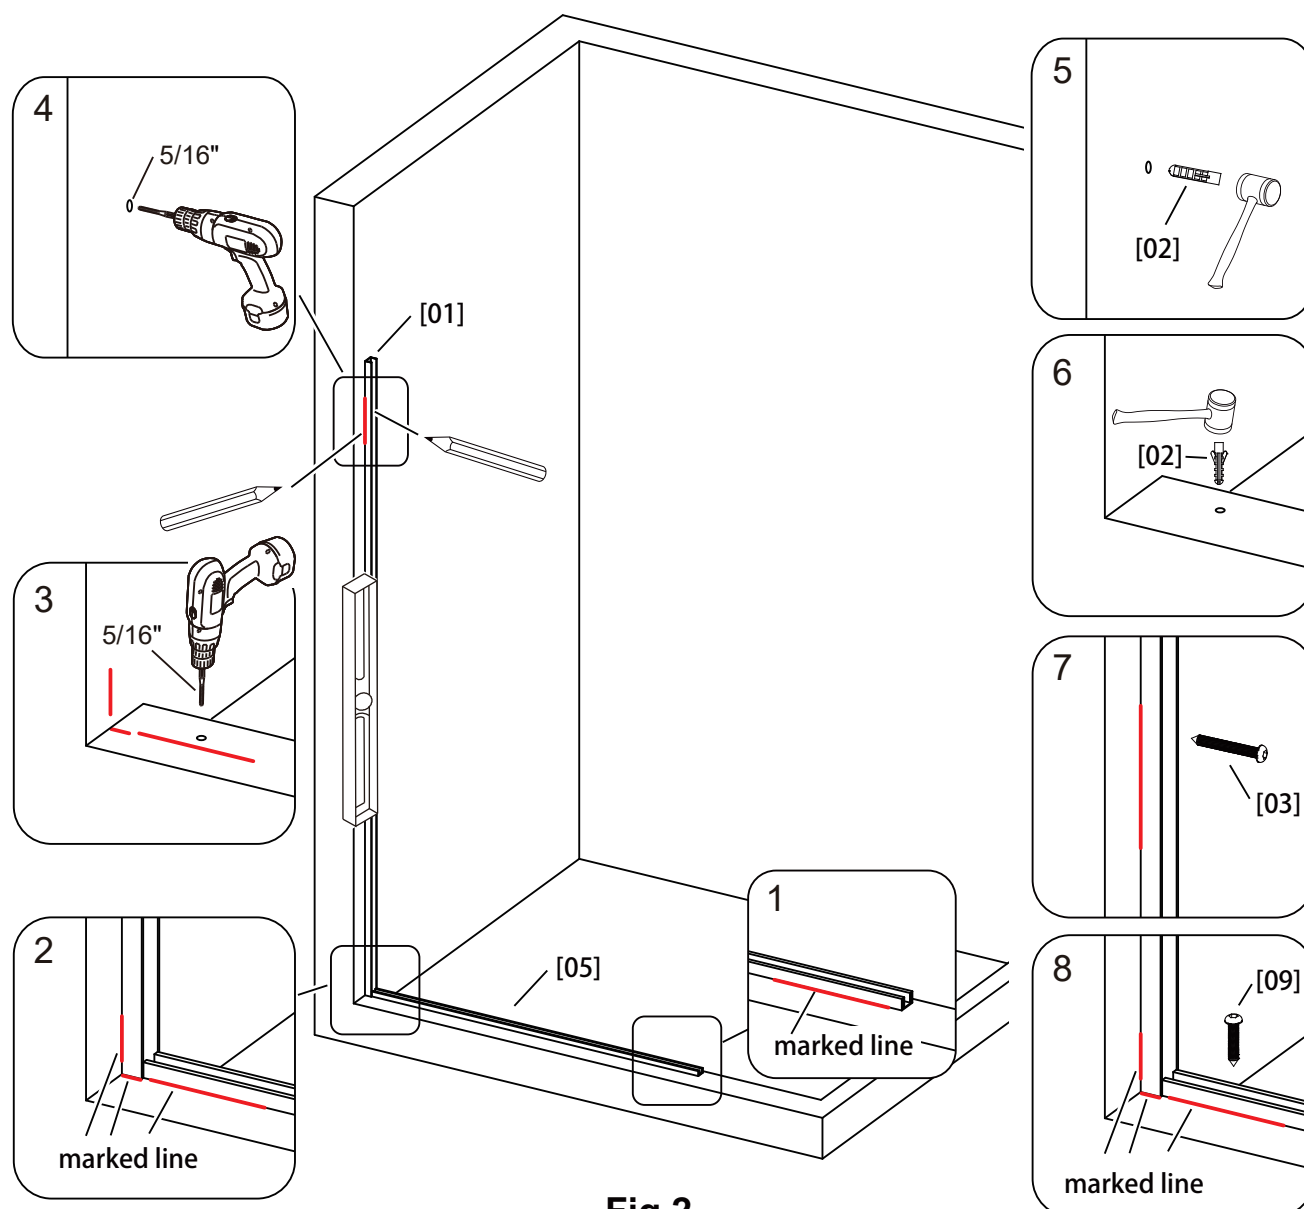

Fig 2
1. Position the **Wall Jamb [01]** on the wall as shown in the figure. Adjust it to align with the **marked line** and ensure it is plumb. (Refer to Fig. 2, Fig. 2.2)
2. Mark the **screw hole positions** through the **Wall Jamb [01]**. Draw lines along the side of the **Wall Jamb [01]** on the wall as indicated in the figure, then remove the **Wall Jamb [01]**. (Refer to Fig. 2, Fig. 2.2)
5. Reposition the **Wall Jamb [01]** on the wall as shown in the figure. Adjust it to align with the **marked line** and ensure it is plumb. Secure it with **Screws [03]** using a **drill** and **Screw Driver Bit [07]**. (Refer to Fig. 2, Fig. 2.7, Fig. 2.8)
6. Position the **Bottom Rail [05]** on the threshold as shown in the figure. Adjust it to align with the **marked line**, then secure it with **Screws [09]** using a **drill** and **Screw Driver Bit [07]**. (Refer to Fig. 2, Fig. 2.8)